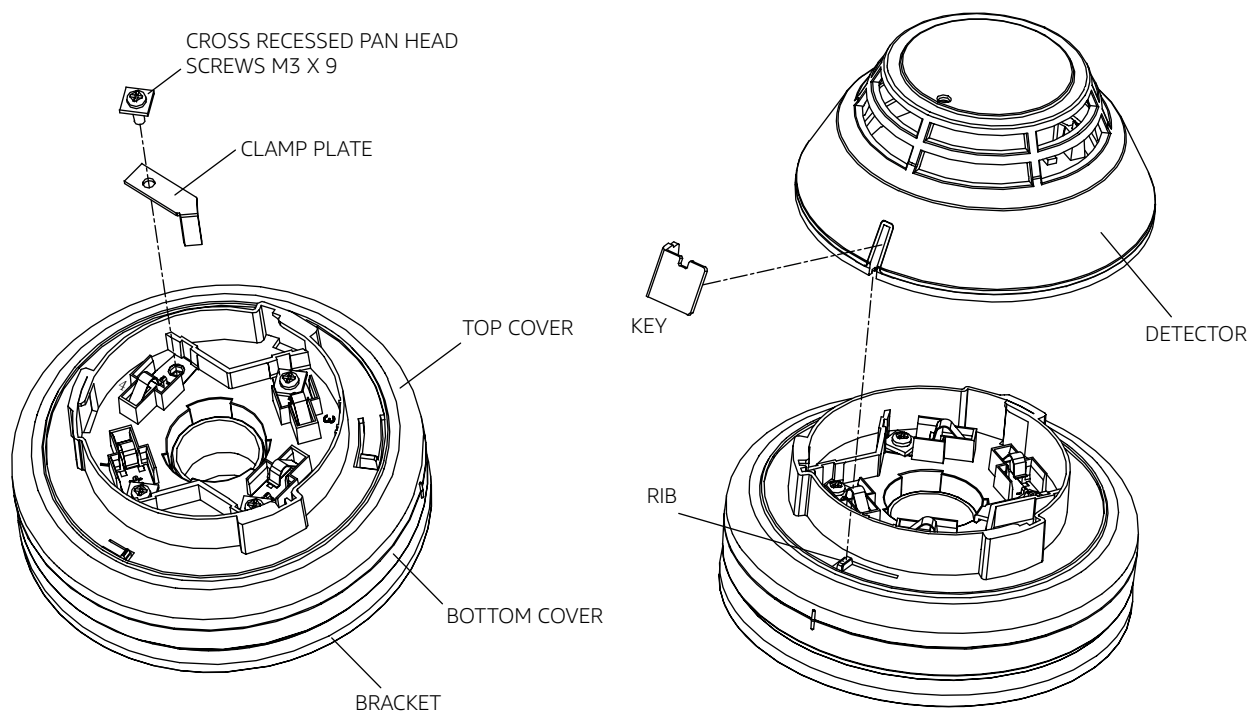

Fig .6
4. If the Sounder Beacon Base is required to be tamer-proof, fix it with cross recessed pan head screws M3x9 thought tamper-proof hole, and the detector is prevented from disassembly by structural changes (See Fig .6)